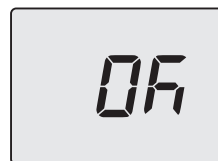

Figure 9.10
- 7 By pressing key "B" (Figure 9.5) confirmation of the inserted value is obtained. The display will show the following (Figure 9.10) for 5 seconds, then move up to the next level.
- 8 By pressing the keys "A" and "C" simultaneously (Figure 9.5) exits the level without changing the value (return to the previous level Figure 9.10).